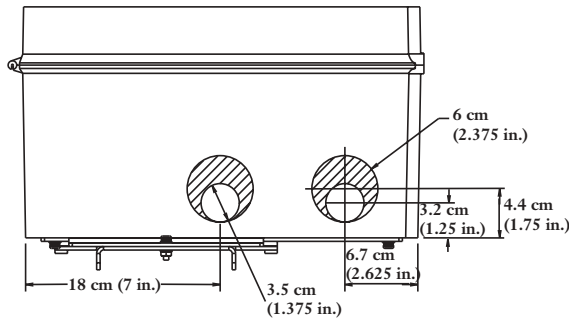

Figure 3
**7.1** Determine the size hole needed based on the fitting being used. Based on dimensions in Figure 3, measure and mark the location of the hole centers on the bottom of the unit. The 2-inch conduit fitting holes are represented by the larger circles and the 1-inch conduit holes by the smaller circles.